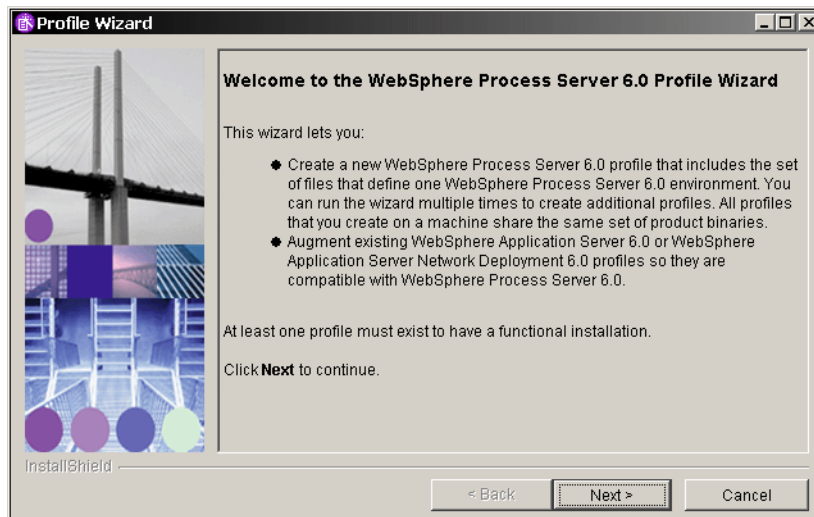

Figure A-14 WebSphere Process Server: Profile Wizard
- ▶ The Profile Wizard starts (Figure A-14).